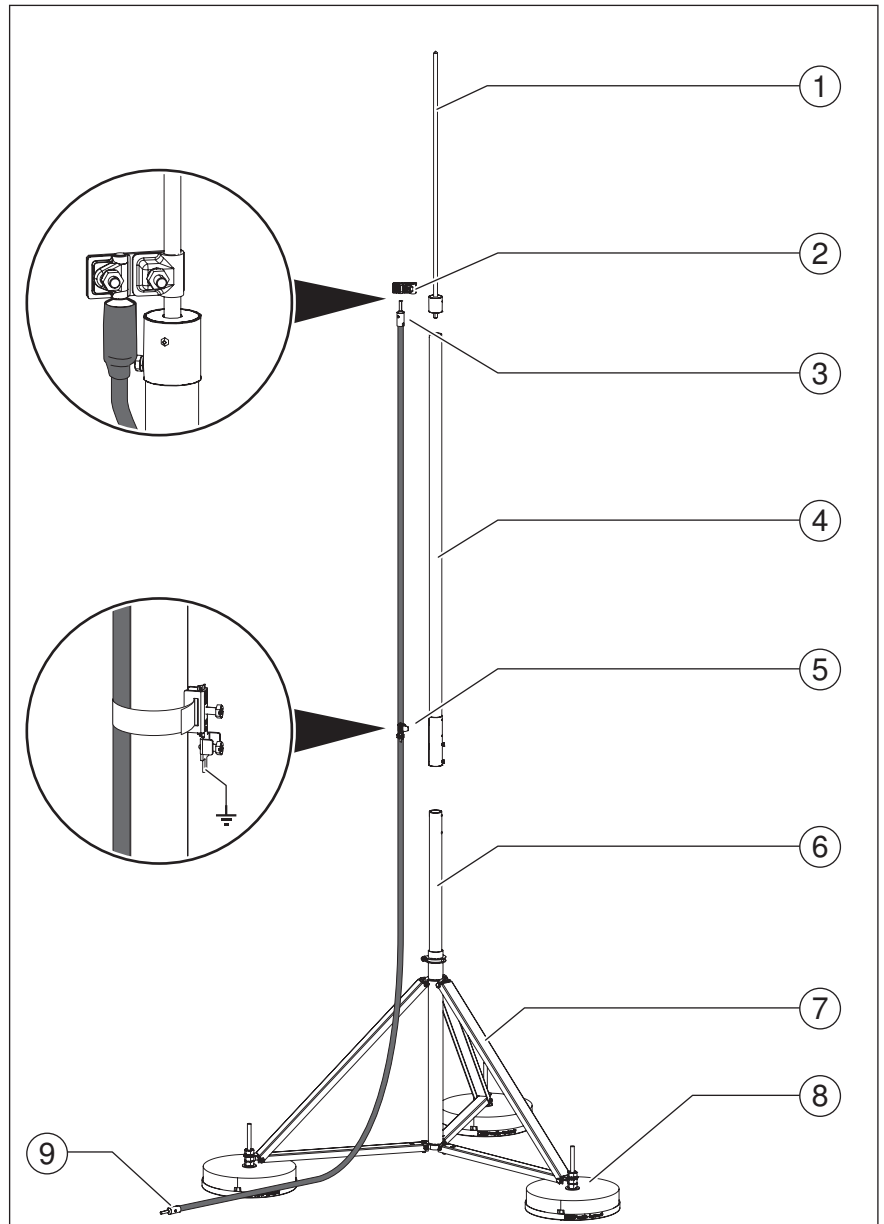

**Fig. 38:** Connecting the insulated central rod and the retaining rod
The internal potential connection element consists of two half shells. These must be located in such a way that they surround the isCon® conductor and one of the half shells is located centrally beneath the screw holes, so that it can be pressed using the side screw (see Fig. 38).
- Push the retaining rod as far as it will go into the central rod. In so doing, the opening for the left copper screw (see Fig. 38) may not point to the gap between the half shells of the potential connection, but centrally to one of the half shells. If necessary, turn the half shells accordingly.